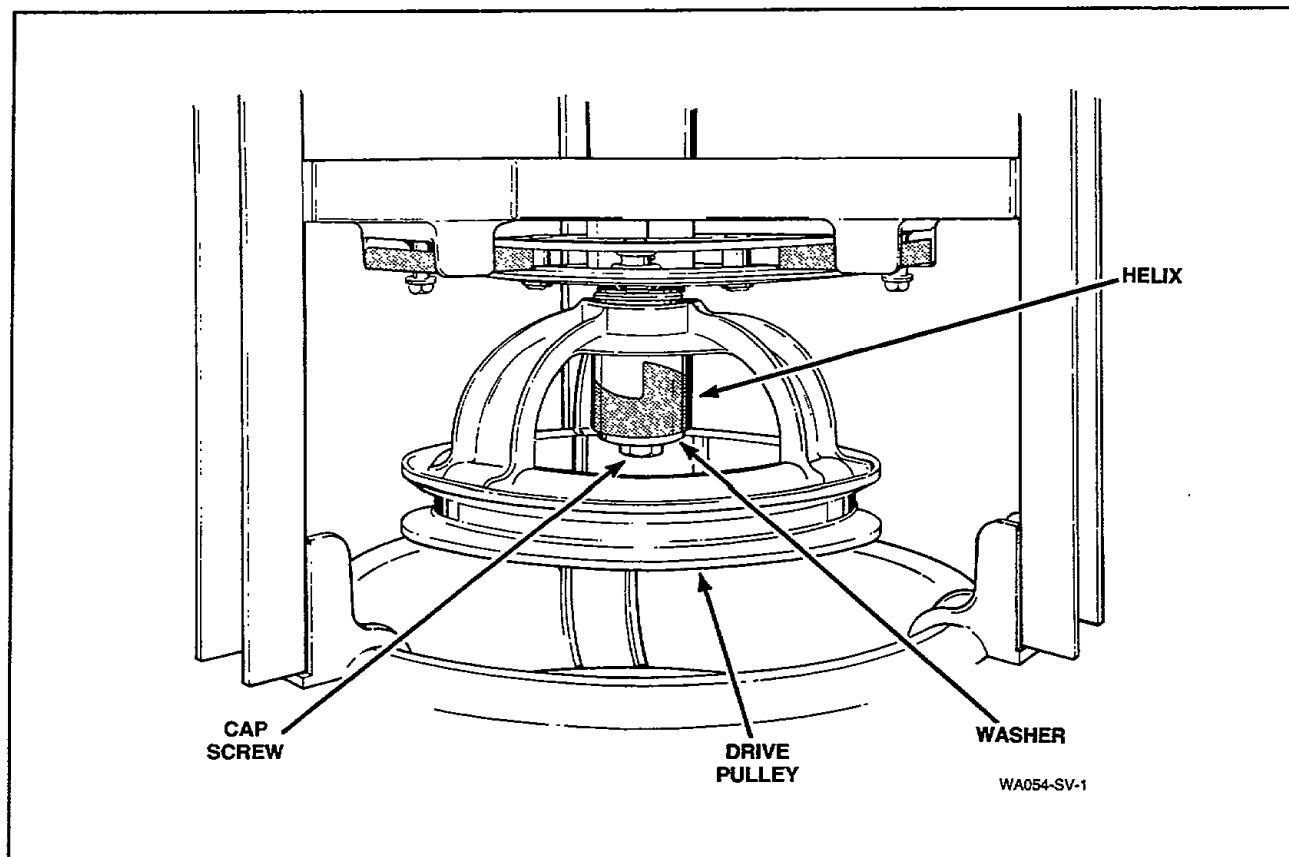

Figure 43
- j. Remove screw, washer and helix the drive pulley to input shaft of transmission assembly, *Figure 43*.
- n. Remove screw, washer and helix holding drive pulley to transmission shaft, *Figure 43*.
- o. Remove drive pulley from transmission shaft, *Figure 43*.
- p. Remove two large flat washers from transmission shaft, *Figure 43*.